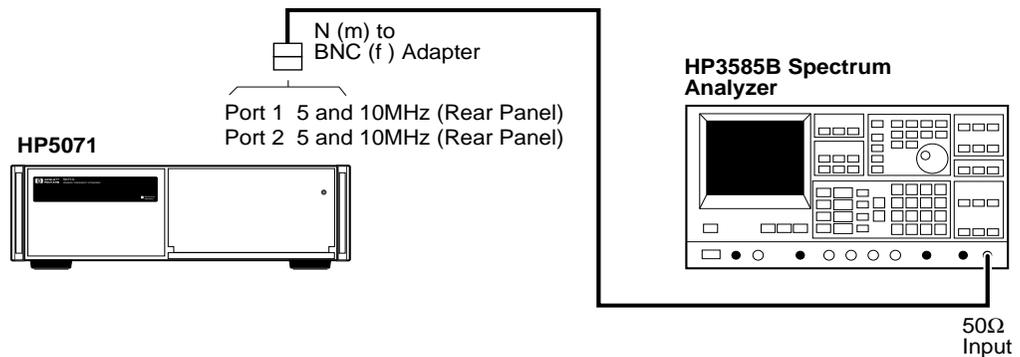

Figure A-3. Harmonic Distortion Test Setup
- 1** Connect the 5071A Port 1 to the 3585B analyzer as shown in Figure A-3. Set the 3585B for 50 Ω input impedance.